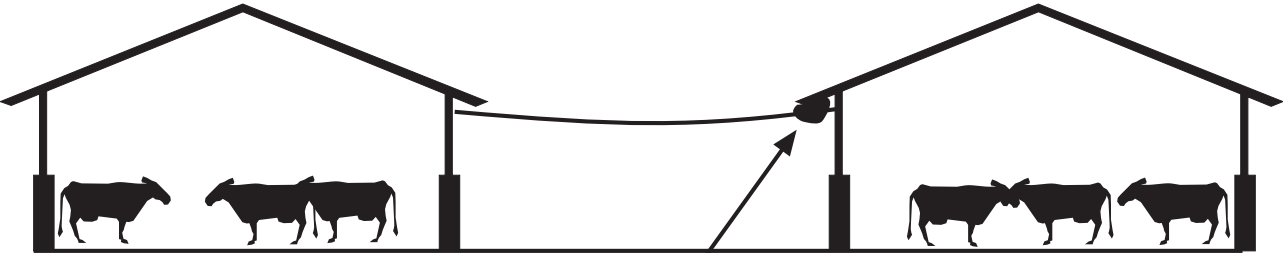

**Fig. 2**
2. The stork clip should be hung on the sub-cords above the net (see figure 2).